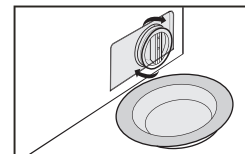

Fig 20
3. Reinstall each part after sundries matters are removed (Fig 20).